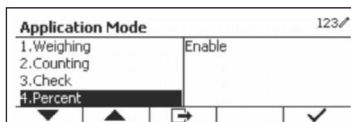

Figure 74
3. In the Application Mode menu, enter the Percent submenu. (See Figure 74)